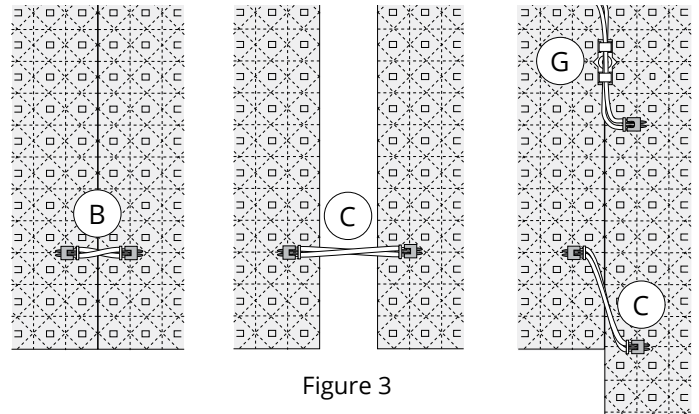

Figure 3
Use the long sheet-to-sheet connection wires (C) to bridge gaps and/or connect offset sheets as shown in Figure 3.
Route the connection wires so that the light from the LEDs is not blocked and hold the wires in this position using cable management clips with silicone adhesive backing (G) as shown in Figure 3. Once applied, let this adhesive backing cure for 10-30 minutes before routing wires through the clip. When possible, use a mechanical fastener to secure the clip. If this is not possible in your installation you may need to utilize a cyanoacrylate adhesive to create a reliable bond between the clip and light sheet. A supplementary document that outlines this process is available upon request.